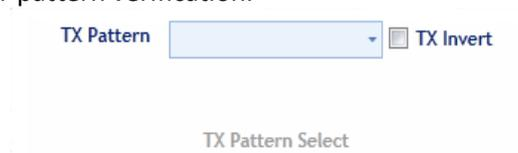

Figure 6: PRBS Channel Configuration
- A reference clock output (synchronous to the transmit clock) is provided on SMA "j" (see table 1). This clock will be equal to the line rate divided by 40 for low rates (NRZ mode) between 10 and 15Gbps, and divided by /165 for high rates (NRZ and PAM4 modes) between 18.6 and 30.2 (equal to 37.2 and 60 Gb/s -PAM4 mode-). The frequency of the reference clock output signal is shown in the field next to the **Ref** label in the GUI as can be seen in figure 6.